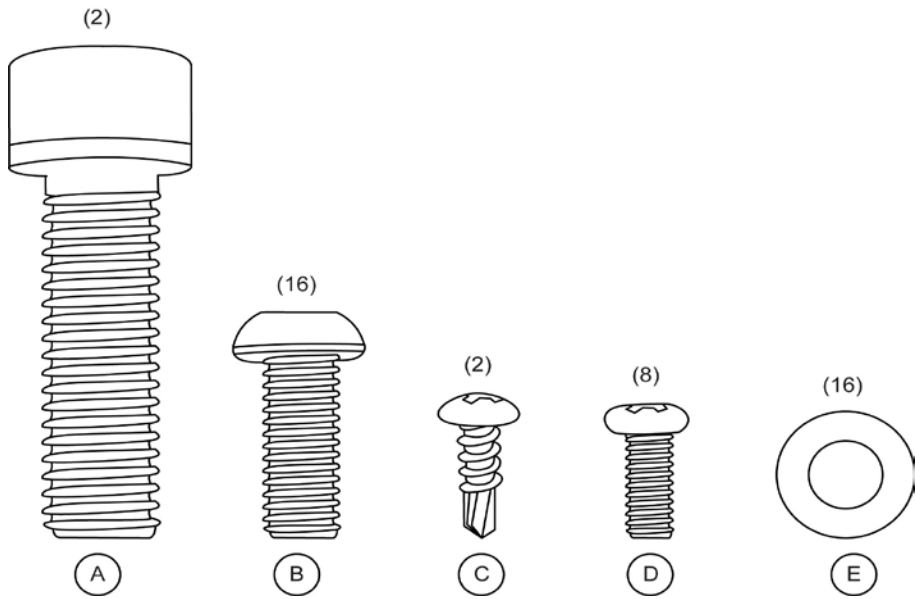

Figure 1
- (1) Plastic bag containing:
- (2) Covers for Display Support (Front & Back)
- Hardware for assembly (see Figure 1)
- (2) Pivot bracket screw covers
4. Position the center handrail over the left and right mounting holes arrays on the platform. Fasten the handrail to the platform. Use (8) M8 1.25 x $\frac{3}{4}$ screws (B) and (8) M8 washers (F). Use the 5mm Allen wrench to tighten the screws. Do not over tighten (see Figures 1 & 3).
5. Attach the left / right side handrails to the center handrail and platform using (2) M10 1.5 x 1 $\frac{1}{2}$ screws (A), (8) M8 1.25 x $\frac{3}{4}$ screws (B) with (8) M8 washers (F), and lightly tighten (see Figures 1, 2 & 3).
15. Align the four mounting holes on the back of the display assembly with the four mounting holes in the display support. Fasten the display assembly onto the metal display support by using (4) Phillips pan head #5 x $\frac{3}{8}$ screws (E). Use Phillips head screwdriver to tighten the screws (see Figures 1 & 4).
16. Place the pivot bracket screw covers over the pivot screws. Fasten the covers to the back of the display using (4) Phillips pan head #5 x 3/8 screws (E). Use Phillips head screwdriver to tighten the screws (see Figures 1 & 4).
17. Attach the adapter holder to the center handrail using (2) #8 x 1/2 sheet metal screws (D). Use Phillips head screwdriver to tighten the screws. (see Figures 1 & 2).